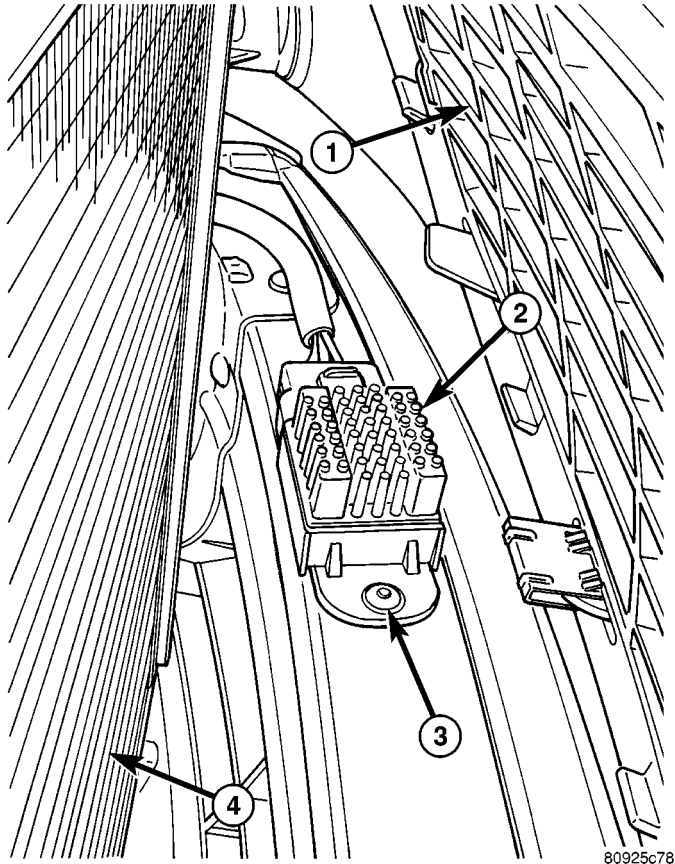

Fig. 18 RADIATOR FAN RELAY
- (1) Open hood.
- (2) Disconnect and isolate the battery negative cable.
- (3) Partiacially remove the front fascia to gain access to the radiator fan relay (Refer to 23 - BODY/ EXTERIOR/GRILLE - REMOVAL).
- (4) Disconnect the relay electrical connector (Fig. 18).
- (5) Remove the rivet attaching the relay to the front bumper beam (Fig. 18).
- (6) Remove the relay.
- (1) Position relay and install a new rivet (Fig. 18).
- (2) Connect electrical connector to relay.
- (3) Install front fascia (Refer to 23 - BODY/EXTERIOR/GRILLE - INSTALLATION).
- (4) Connect negative cable to battery.